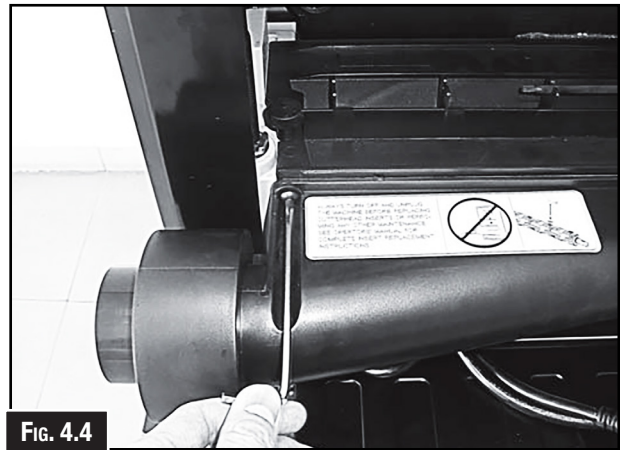

FIG. 4.4
1. Install the dust port on the rear of the thicknesser. Attach the dust hood on the back of the machine using the 4 socket head cap screws supplied with the machine. (Fig. 4.4)